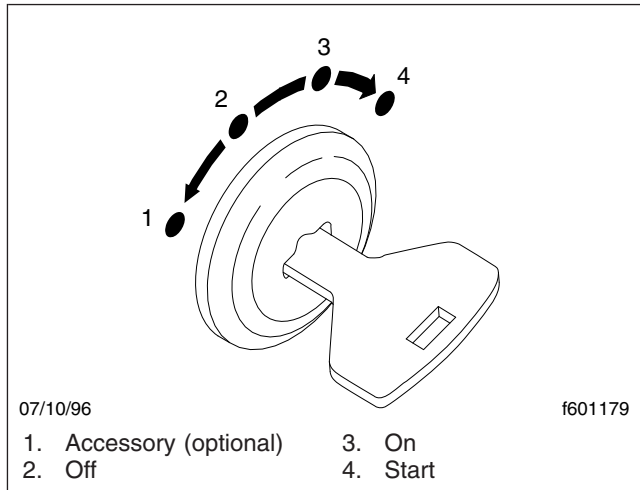
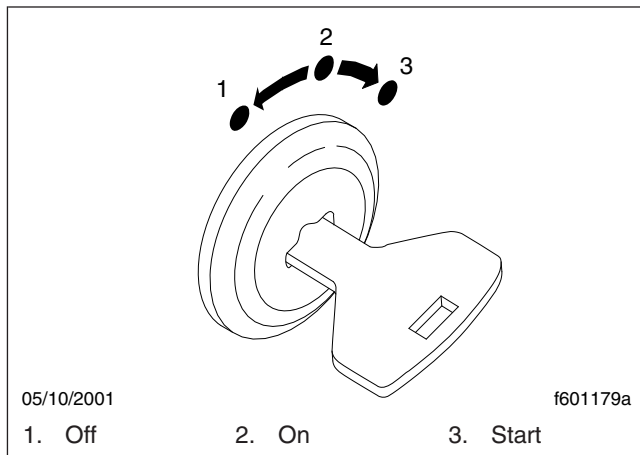

Fig. 8.1, Four-Position Ignition Switch
Fig. 8.2, Three-Position Ignition Switch
3. For automatic transmissions, make sure that the transmission shift control is in Neutral (N), Park (P), or the Park Brake (PB) position.
4. Turn the ignition switch to the START position. See Fig. 8.1 for the four-position ignition switch and Fig. 8.2 for the three-position ignition switch. After the engine starts, release the key.